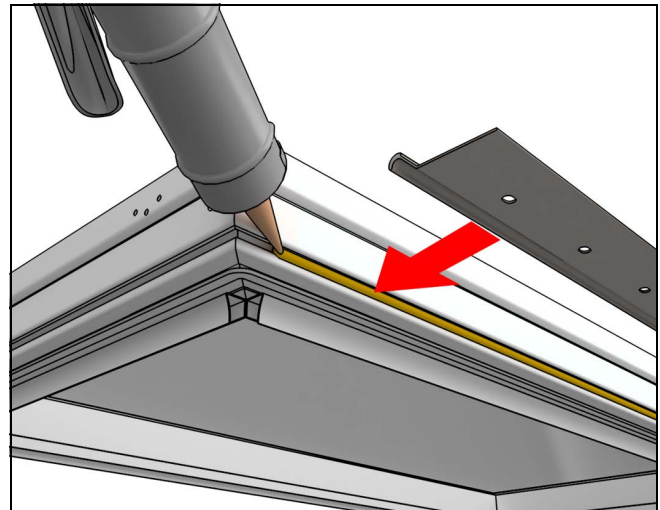

Figure 8
6. On **Skylight units only**, apply sealant to mounting flange kerf on all four sides of the product prior to installing the mounting flange. See Figure 8.